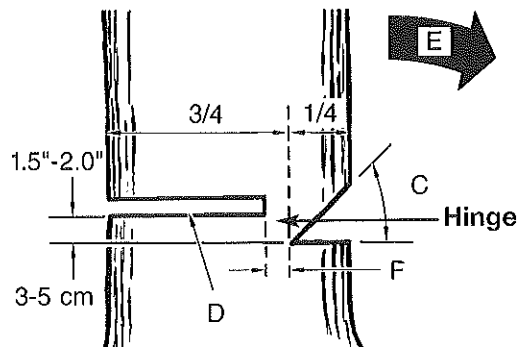

Fig. 13
Normally felling consists of 2 main cutting operations, notching (C) and making the felling cut (D) (Fig. 13). Start making the upper notch cut (C) on the side of the tree facing the felling direction (E). Be sure you don't make the lower cut too deep into the trunk (Fig. 13). The notch (C) should be deep enough to create a hinge (F) of sufficient width and strength. The notch should be wide enough to direct the fall of the tree for as long as possible (Fig. 13).
Make the felling cut (D) from the other side of the tree and 1.5 - 2.0 inches (3-5 cm) above the edge of the notch (C) (Fig. 13).